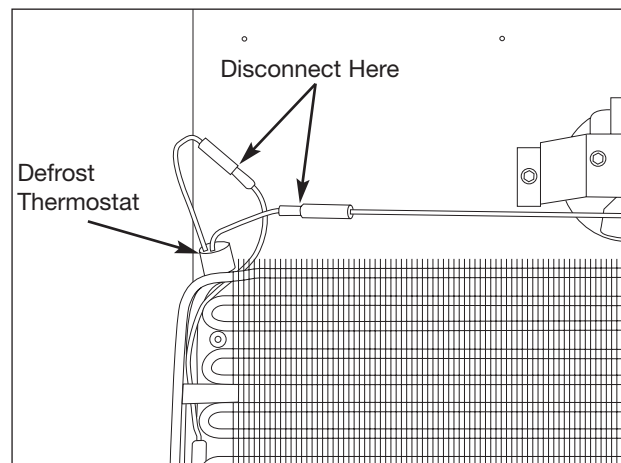

Figure 5-20. Defrost Thermostat Removal
The defrost thermostat is secured with a retaining clip to the upper left corner of the evaporator assembly. (See Figure 5-20)
4. Disconnect the defrost thermostat wire leads from the wire harness. (See Figure 5-20)